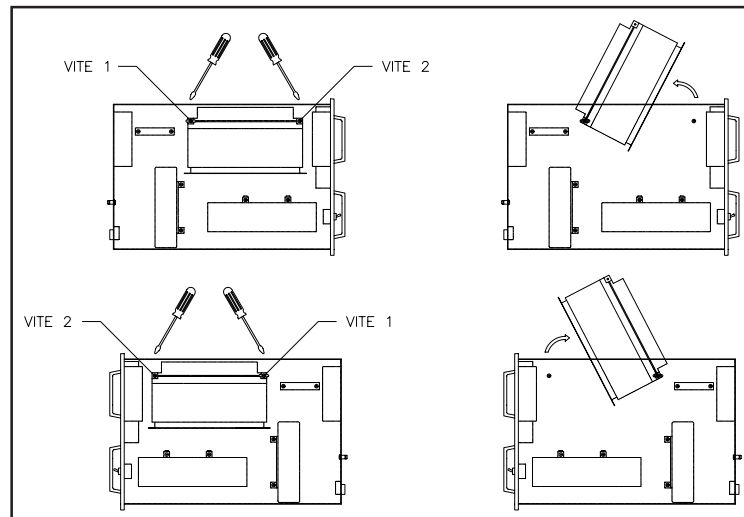

Figure 9.1
- Loosen the two screws 1 (Fig. 9.1) and remove the two screws 2 (Fig. 9.1) situated on the right and left side of the amplifier.